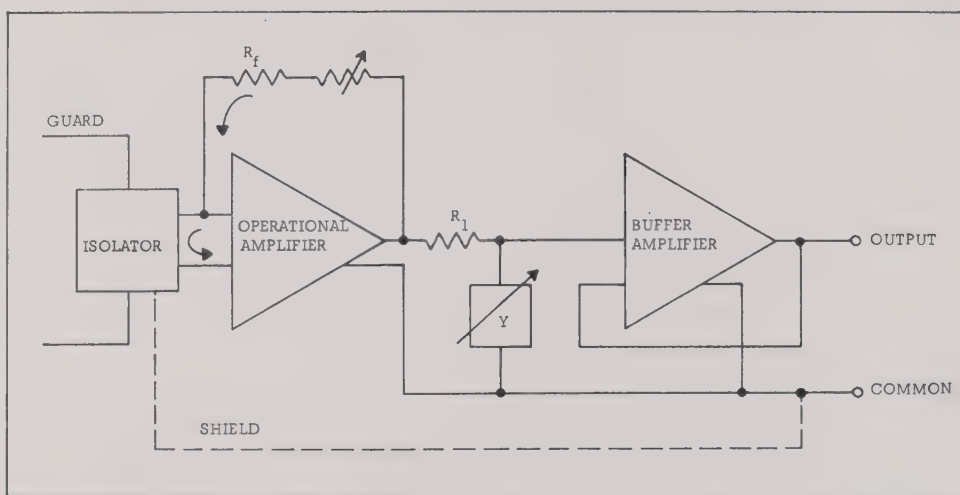

Figure 4.5 - Output Amplifier
The Output Amplifier (Figure 4.5) consists of an operational amplifier, active-admittance filter, and buffer amplifier. A negative feedback trim potentiometer is the vernier gain adjust for the amplifier. Current at the input is converted to voltage at the output. The active-admittance filter is a three pole Bessel filter consisting of a resistor R_1 and an active filter (Y) that attenuates the signal 3dB at the selected cutoff frequency (front panel BANDWIDTH control). Attenuation above the cutoff frequency is 18dB per octave, 60dB per decade. The buffer amplifier is a unity gain amplifier that provides ± 100 milliamperes to a load of 100 ohms.